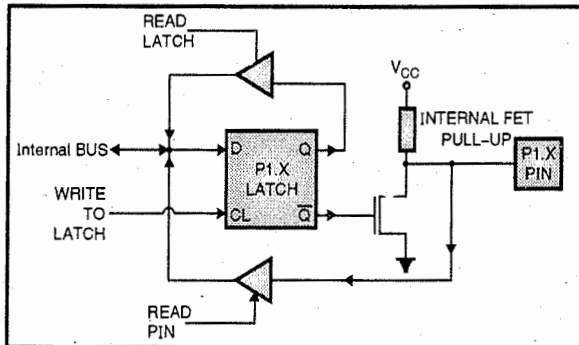

Fig. 1.17.4 : Port 1 circuit
- Port 1 is a simple I/O port of microcontroller. Its address is 90H. It does not have any extra function. Hence, the output latch is connected directly to the gate of the lower FET, consisting of a circuit labelled internal pull up. Fig. 1.17.4 shows port 1 circuit.